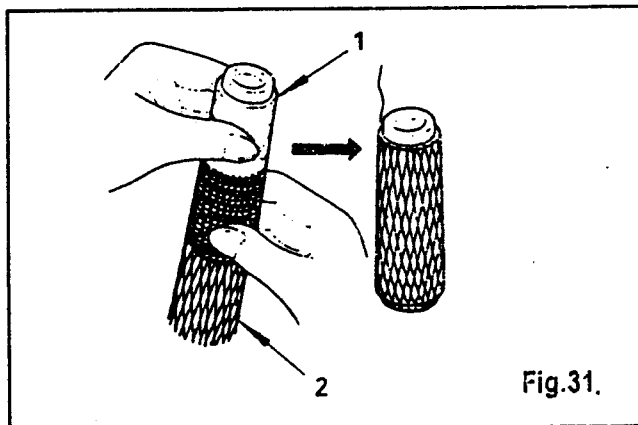

Fig.31.
When using synthetic threads that easily spill off the core (1), slip the anti-spill sleeve (2) furnished with the machine over the thread from the bottom of cone (1) leaving the thread end to hang free at the top of anti-spill sleeve (2) as shown in Fig.31.